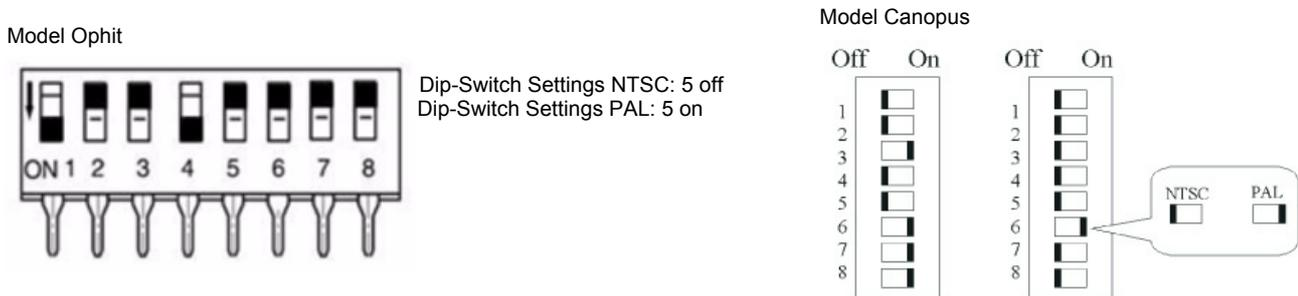

Figure 3-77 Video Converter Dip Switch Positions
5.) If not already done, set the switches to the correct positions, as shown in Figure 3-77 below.
NOTE: Dip switches are located beneath the video converter, as shown in Figure 3-77 on page 3-62.
- 5.) Set the switches to the correct positions, as shown in Figure 3-77 on page 3-62.
- 7.) Press the **Input Select** button (see: Figure 3-77 on page 3-62) on the video converter **three** times in order to select RGB Input as your signal source.